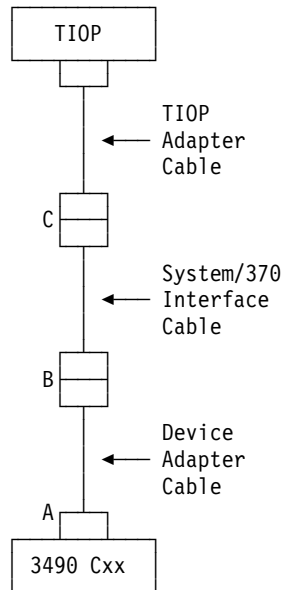

Figure 18. Tape Subsystem Cable Connections
28. The tape subsystem cables are connected as shown in Figure 18 on page 646.
- a. Disconnect the device adapter cable from the I/O device control unit (at A in Figure 18).
- b. Disconnect the System/370 interface cable from the device adapter cable (at **B** in Figure 18 on page 646).
- b. Disconnect the TIOP adapter cable from the System/370 interface cable (at C in Figure 18 on page 646).